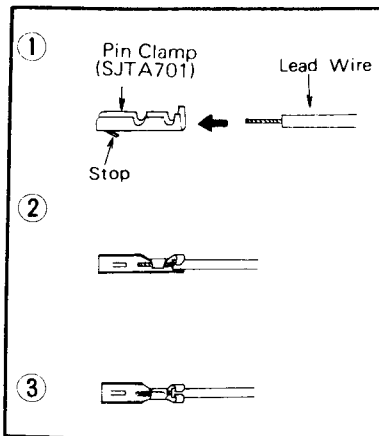

Fig. 1
1. Insert the lead wire into the lead wire pin clamp. (See fig. 1-①)
2. Bend the tabs of the lead wire pin clamp using radio pliers to attach the lead wire. (See fig. 1-② and ③)